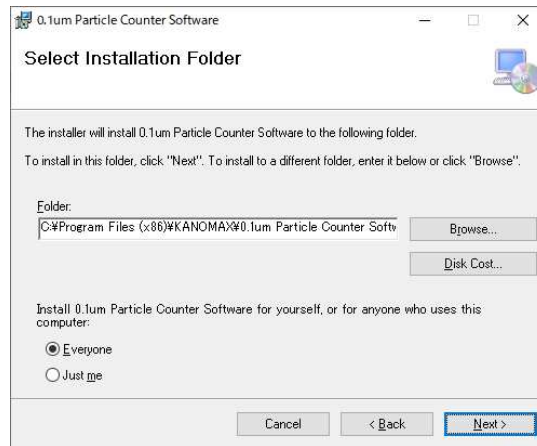

Figure 2-2 Select Installation Folder Dialog Box
- 2) Click the **Next** button to display the dialog box as shown in Figure 2-2. The default location to install is the C drive. To install into a different drive or a folder, click "Browse..." and choose the required location.